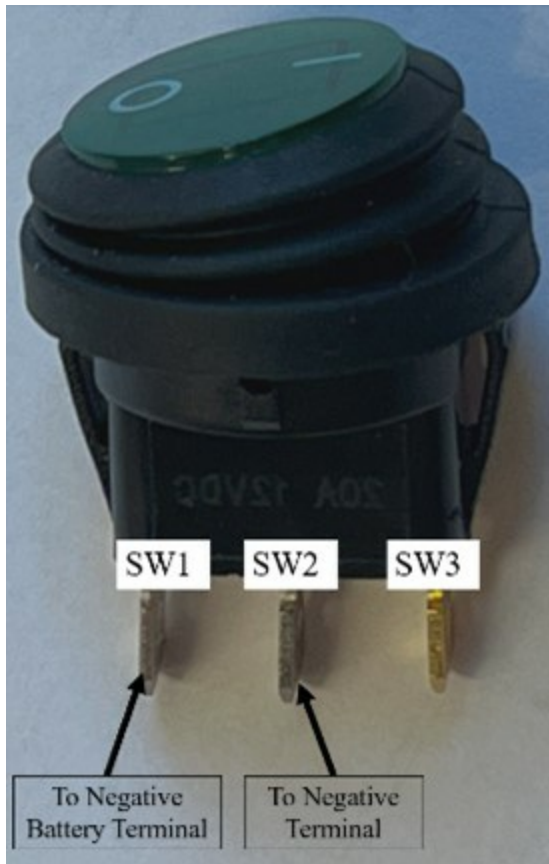

Figure 7. Rocker switch connections
- 11.10 Connect the spades on the pre-soldered wires to the SW1 and SW2 positions on the rocker switch (Figure 7).